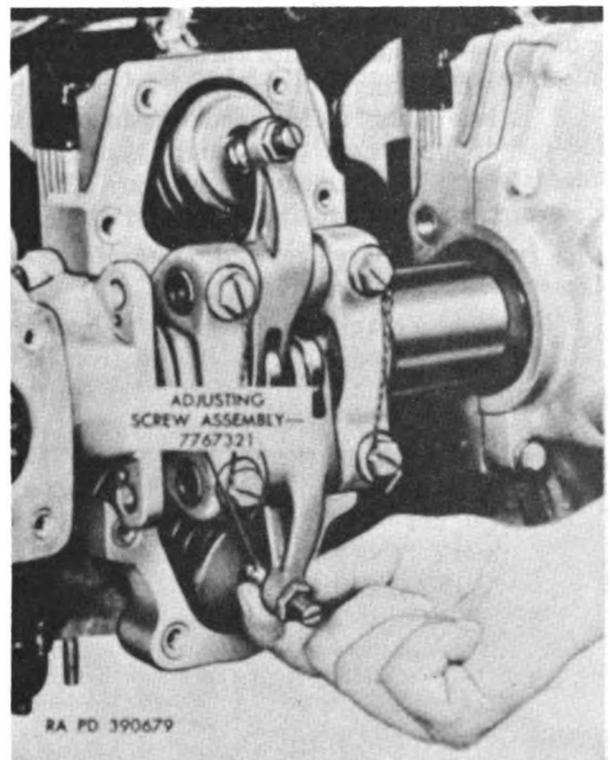

Figure 179. Determining closing point of No. 1 cylinder intake valve.
- (2) Slowly rotate right side camshaft counterclockwise, as viewed from the accessory end (fig. 178), until No. 1 cylinder intake valve has just closed. The closing point is precisely determined by turning swivel pad on intake valve adjusting screw assembly as shown in figure 179, while camshaft is being rotated. Valve is closed the instant swivel pad is free.
- (4) Check valve timing as described in (a) through (c) below.
- (a) Rotate camshaft, as described in (1) above, one-eighth turn counter-clockwise, as viewed from accessory end, to remove gear backlash.
- (b) Slowly rotate crankshaft clockwise, at the same time turning the swivel pad on No. 1 cylinder intake valve adjusting screw assembly, as shown in figure 179. Stop rotating crankshaft at the instant swivel pad becomes free.
- (d) If timing marks and notch are not alined as stated in (c) above, withdraw camshaft drive shaft and repeat timing procedure ((1) through (3) above) and again check timing ((a) through (c) above).